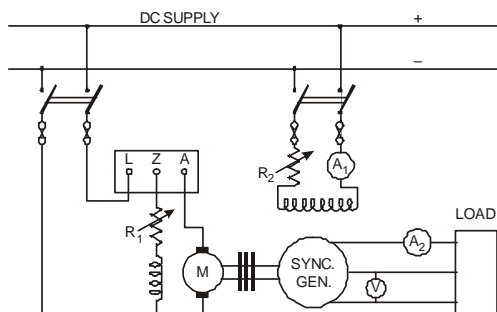

Fig. P8.2: Circuit diagram to observe the effect of load on terminal voltage
1. Make the connections as per the circuit diagram shown in fig. P8.2.
7. Keeping the excitation fixed at this value, go on decreasing the load (i.e. load current). Note the value of load current (I_L) and terminal voltage (V) at each step, keeping the speed constant.
9. Draw the graph between load current (I_L) and terminal voltage (V).